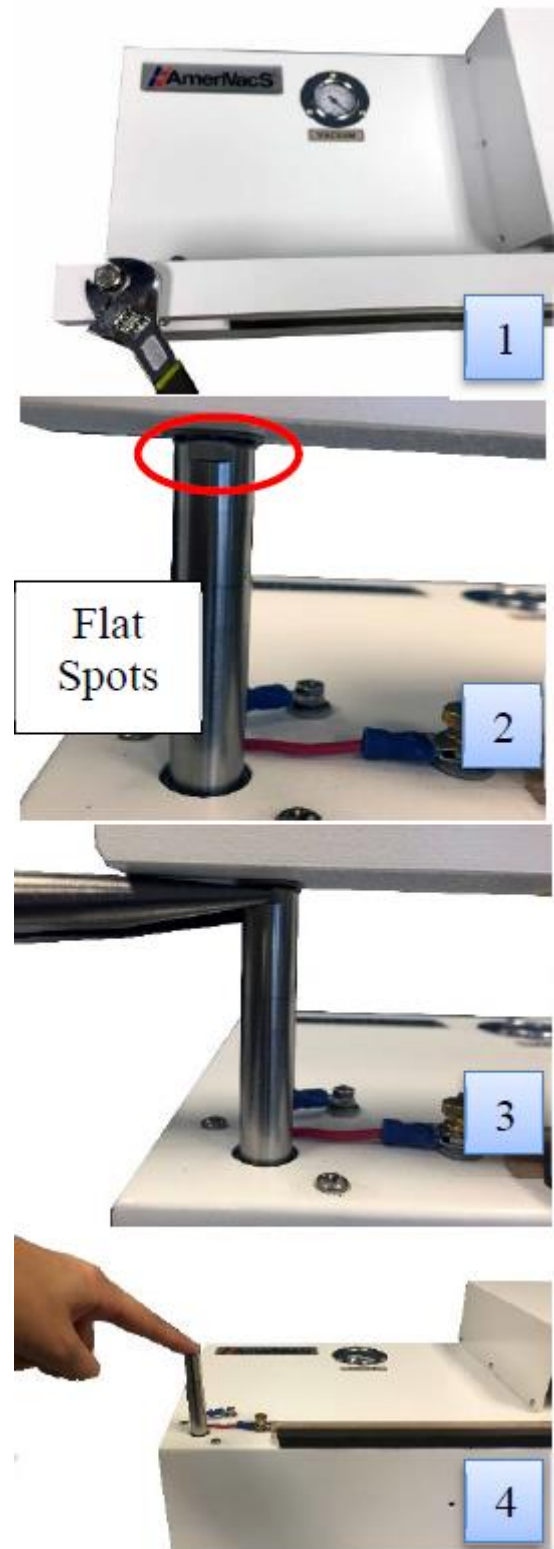

Figure 11
1. To unscrew the pressure bar bolts, use an adjustable wrench or your desired tool, as shown in figure 11, image 1.
- a. To keep the cylinder rods from rotating along with the pressure bar bolts, hold the cylinder rods by the flat spots located at the top of the rod using the needle-nose pliers, as shown in figure 11, image 3.
4. Carefully, lower the cylinder rods down as shown in figure 11, image 4.
Do not hold the cylinder rods from any other place but the flat spots, as shown in figure 11, image 2. Doing this will only damage the cylinder rods and stop the pressure bar from working properly.